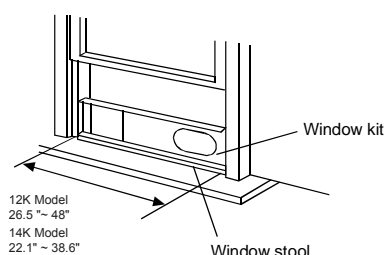

Fig.11
2. Attach the window slider kit to the window stool. Adjust the length of the window slider kit according to the width of window, shorten the adjustable window kit if the width of window is less than 27 inches. Open the window sash and place the window slider kit on the window stool. Fig.11